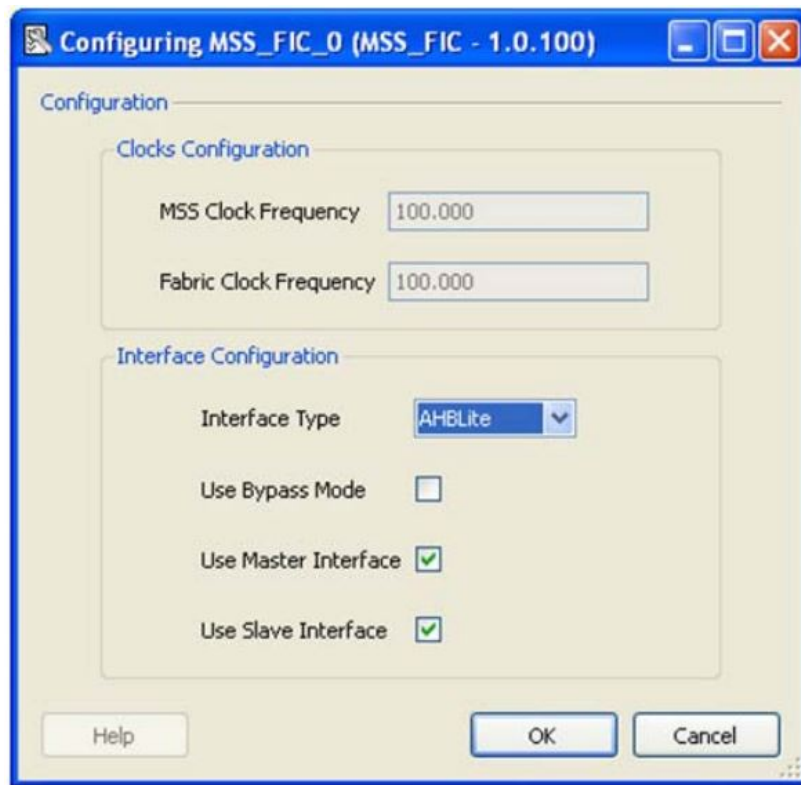

Figure 1-2 • Fabric Interface Configurator
- **Interface Type** – Use this option to select between the AMBA APB3 (AHB to APB bridge) and AHBLite (AHB to AHB bridge) FIC modes (Figure 1-2).
- **Interface Type** – Use this option to select between the AMBA APB3 (AHB to APB bridge) and AHB Lite (AHB to AHB bridge) FIC modes (Figure 1-2).